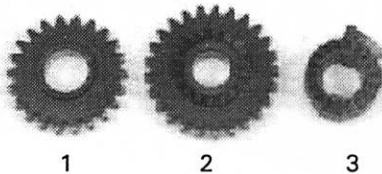
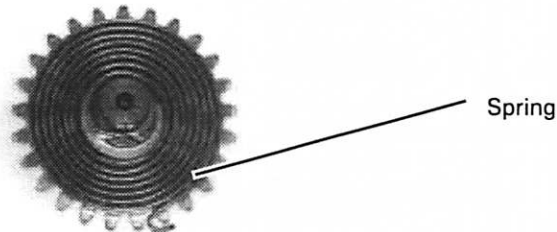

Figure 59
Figure 60
2. Check all gears (Figure 59) for broken, chipped or worn teeth.
3. Check the idler gear (1, Figure 59) and kickstarter gear (2, Figure 59) bores for severe wear or damage.
4. Check the ratchet gear (3, Figure 59) for severely worn or damaged splines.
5. Check the ratchet teeth on the kickstarter gear (2, Figure 59) and ratchet gear (3, Figure 59) for severe wear, cracks or other damage. The ratchet teeth must be sharp.
9. Assemble the kickstarter assembly in the order shown in Figure 59. Install the kickstarter spring onto the kickstarter shaft as shown in Figure 60.